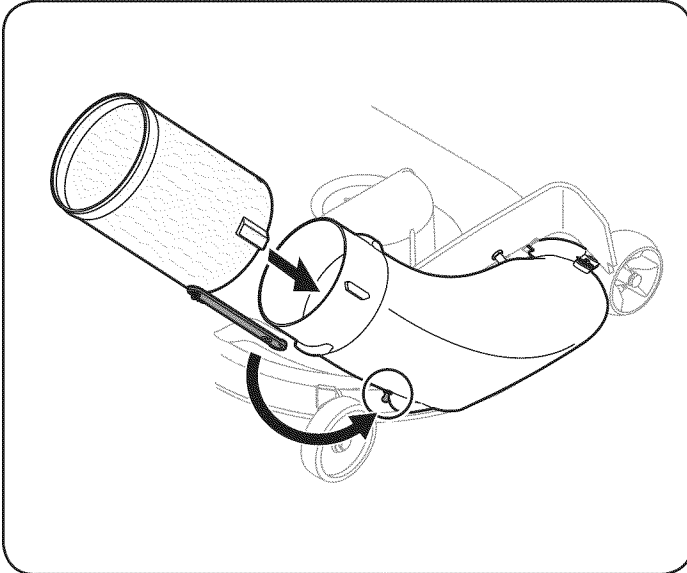

Figure 26
15. Install the chute tube extension onto the chute elbow by lining up the tabs and sliding the adapter over the chute elbow, as in Fig. 26.